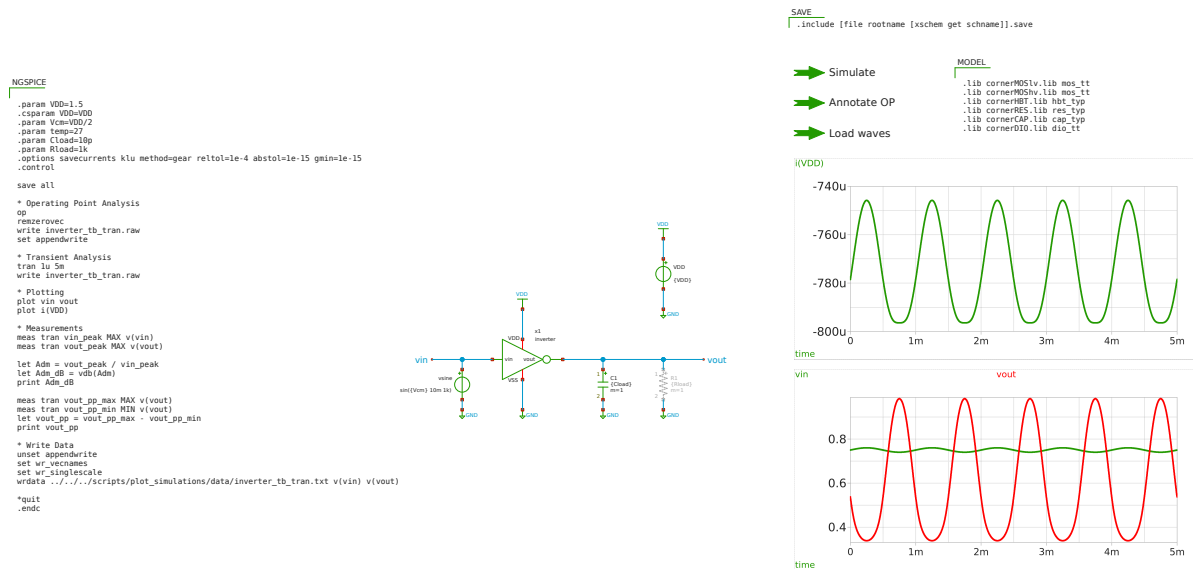

Figure 8: Xschem testbench `inverter_tb_tran` (single-channel transient response on `inverter`).
- `inverter_tb_tran.sch`, single-channel transient response (see Figure 8),